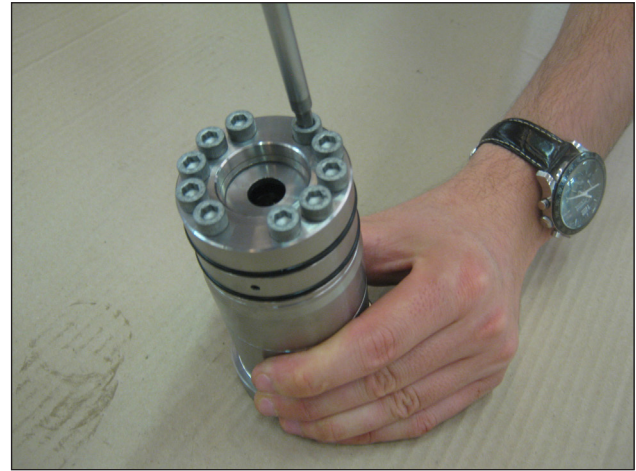

Fig. 67
- Assemble the L.P. and H.P. seals support units. – liner manually screwing the screws M6x80 as indicated in Fig. 67. Then proceed with calibration using a torque wrench as indicated in chapter 3.